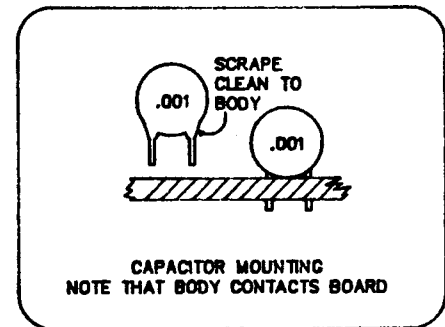

FIGURE 6
4. Install the ceramic disc capacitors in accordance with the instructions on page 2, page 7 fig. 6, and the board designations shown on page 8. Remember that at 220 MHz, construction is critical.